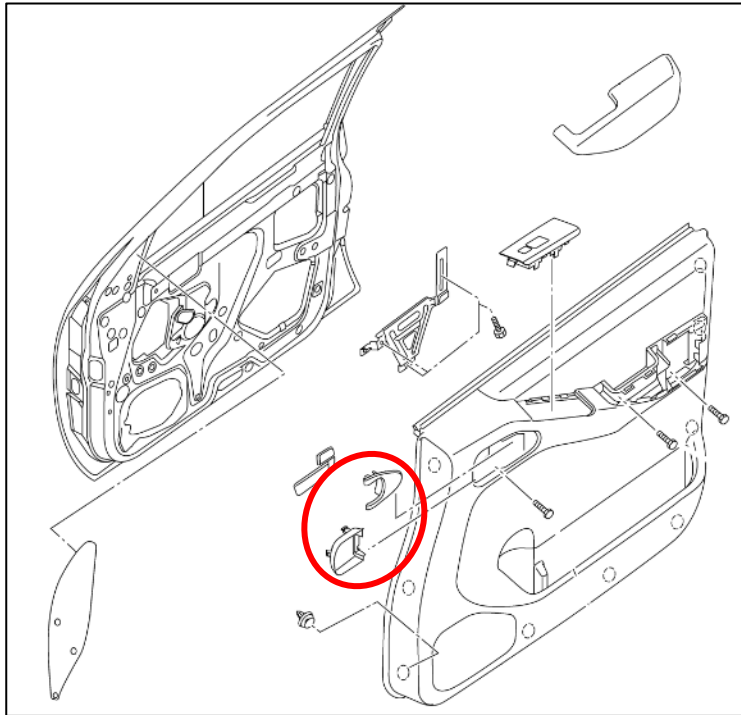

Figure 75
2. Remove the Trim Piece behind the Door Handle with a Trim Removal Tool. *Figure 75.*